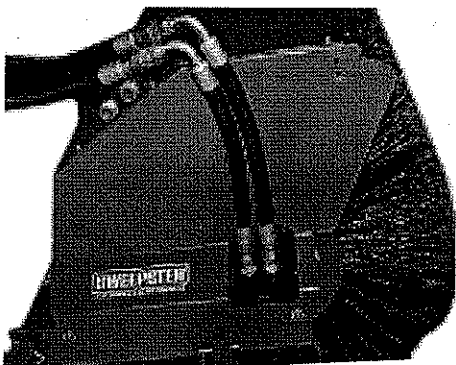

figure 42
- d. On the other motor, connect the hose from the front tube to the hose on the motor's front port. Connect the hose from the rear tube to the motor's rear port (figure 42).